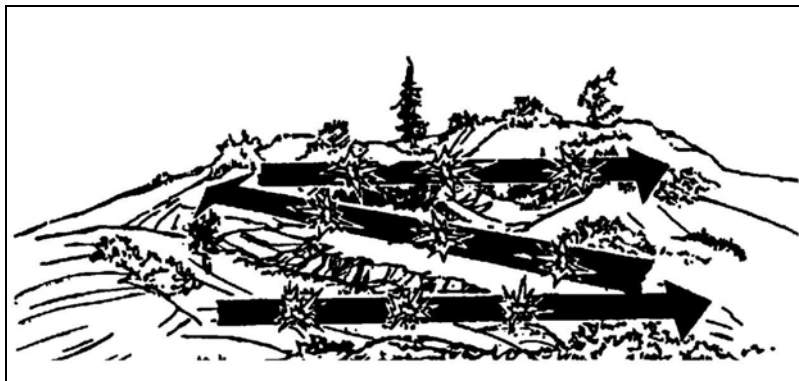

Figure 6-34. High explosives against area target.
(1) The specific type of enemy units and weapons systems might be unidentifiable.
(2) Area targets include any that are too large for a point engagement. They also include any that are very wide, very deep, or both, thus requiring extensive traversing. Two examples of area targets include enemy positions in a tree line or troops on a hilltop, when either spans an area wider than 10 meters.
e. To engage an area target with HEI-T, the gunner uses a suppression technique such as the "Z" pattern (Figure 6-34, page 6-36). He corrects range by indexing a different range or by adjusting the reticle. The number of rounds in a burst depends on the size of the target and degree of success (one round for every 10 to 25 meters). Developing and maintaining the ability to engage targets at extended ranges (1,800 to 3,000 meters) requires practice.
(1) The gunner lays the reticle on center mass of the target area and fires an initial burst of 3 to 5 rounds. Then, he starts firing using suppression technique such as the "Z" pattern.
(2) Once he reaches the opposite edge, he fires a second burst diagonally across the target area to the opposite corner of the area.
(3) Finally, he fires a burst across the far depth of the target, covering the entire width.
(4) He continues firing until he has covered the entire width and depth of the target area, or until the BC commands CEASE FIRE.